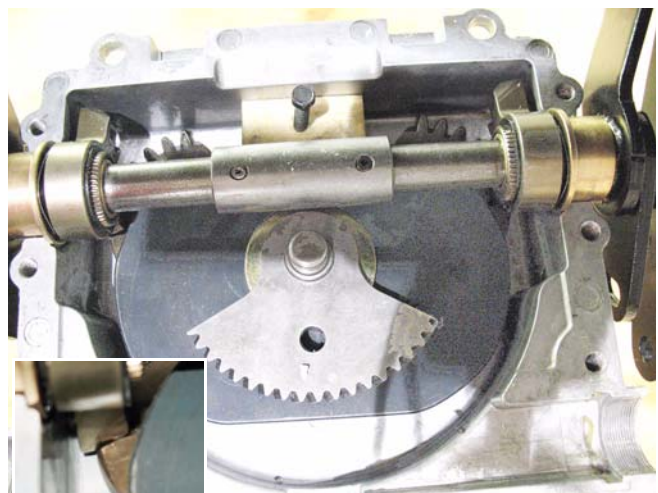

Figure 6.55
- Align the hole in the input sector gear with the center of the square recess at the front of the lower housing. See Figure 6.55.
- The first tooth of each output bevel gear should rest in the first valley of the bevel gears in the bottom of the lower housing. See Figure 6.55. inset.